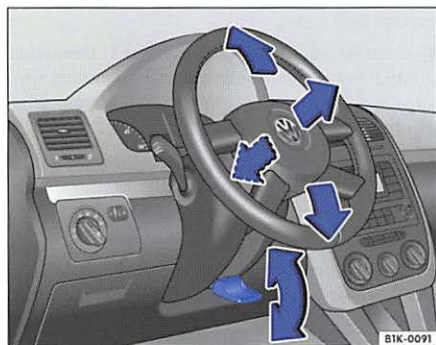

Fig. 73 Adjusting the steering wheel position
- Push down the lever $\Rightarrow$ fig. 73 under the steering column $\Rightarrow$ ⚠.